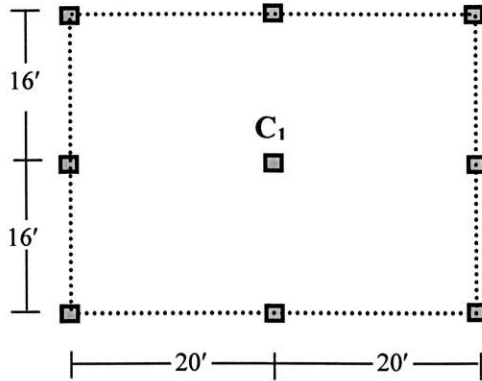

Figure: 2
2. A building is to be designed as a flat plate structure. A plan of the building is shown in **Figure: 2** and dimension of all columns is 12"X12". Using WSD, check column C₁ of the slab shown in **Figure: 2** for punching shear and calculate shear reinforcements. (10)